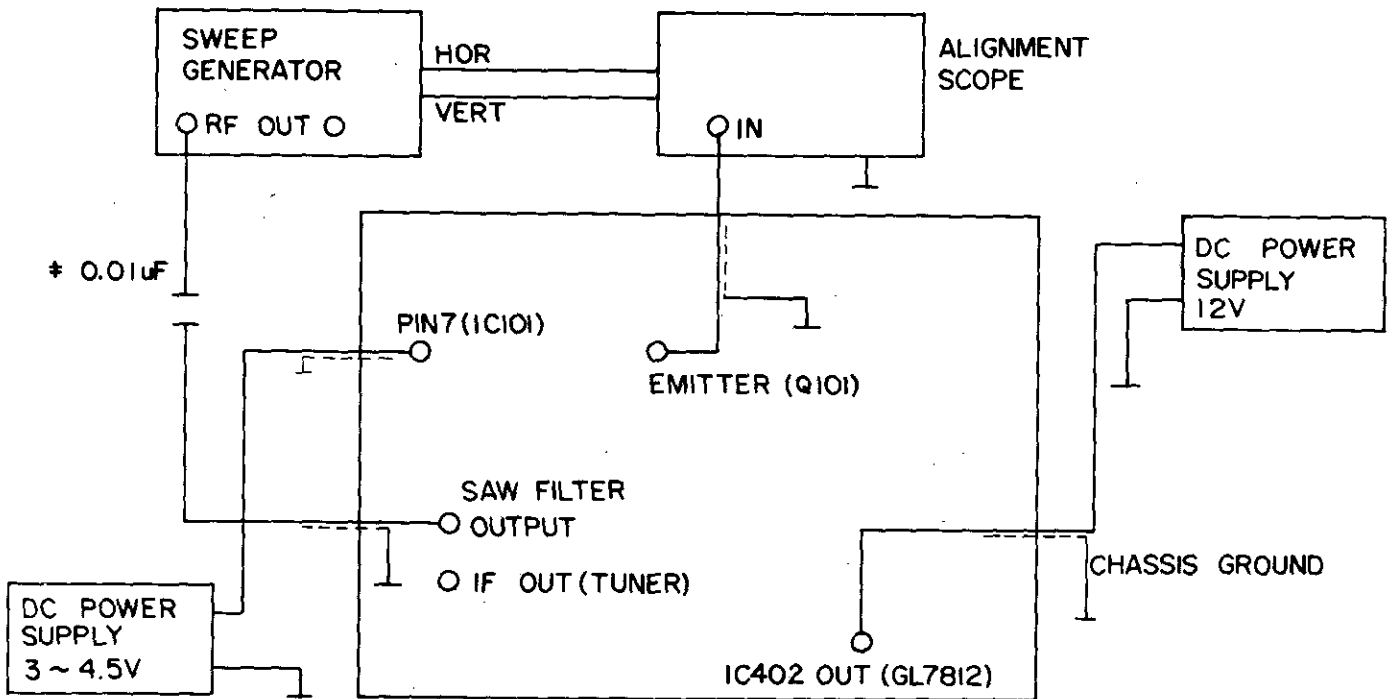

Figure 1
\* Connect Ceramic Capacitor (0.01µF) between RF-OUT terminal of the Sweep Generator and Out terminal of Saw Filter as shown in figure 1.
- Connect the equipment to the main board as shown in figure 1, and then turn the DC power supplier on.
- 2) Do connecting Block Diagram of Equipments as shown in figure 1, but connect RF-OUT terminal of the sweep Generator to IF-OUTPUT terminal of the TUNER on the Main PCB.